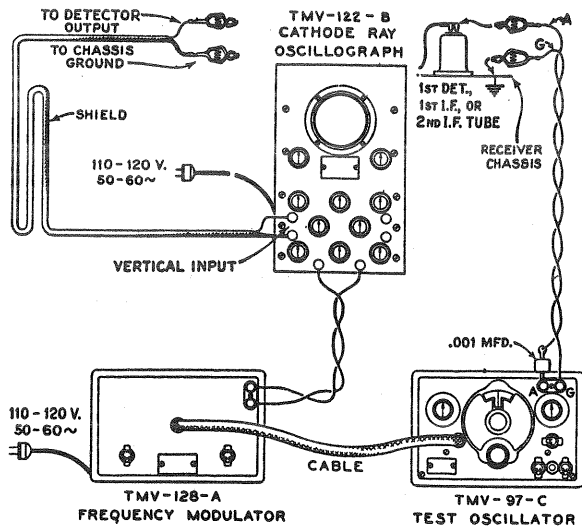

Figure 5—Alignment Apparatus Connections
Figure 5. A .001 mfd. capacitor installed in series with the Oscillator "Ant." lead will prevent the voltages of the stage under alignment from becoming upset. The vertical "A" amplifier should be "On" for the ensuing adjustments and the gain control kept at its maximum position. For each adjustment, the Oscillator output need be regulated so that the image obtained
- (b) Attach the output of the test Oscillator between the control grid cap of the RCA-6K7 i-f tube and chassis ground as shown typically by Figure 5. Tune the Oscillator to 460 kc. and set its modulation switch to "On". Regulate its output until the signal produces a wave pattern on the Oscilloscope screen, adjusting the Oscilloscope controls to give the desired number of cycles. Cause the image to stand still on the screen by manipulation of the frequency and synchronizing controls. Then carefully tune the two trimmers C-29 and C-30 of the second i-f transformer to produce maximum amplitude (vertical deflection) of the oscillographic image. Under this condition the transformer will be sharply resonated to 460 kc.
in operation and interconnected with the Full Range Oscillator by means of the special shielded patch cord. Figure 5 shows the proper arrangement. Set the Frequency Modulator sweep range switch to its "Lo" position and turn the Oscillator modulation switch to "Off". Change the timing control of the Oscilloscope to "Ext." and place the range switch to its No. 2 position. Then carefully shift the tuning of the Oscillator so as to increase its frequency, until two distinct and similar waves appear on the Oscilloscope screen and become exactly coincident at their highest points. These curves will be found to occur at an Oscillator setting of approximately 540 kc. They will be identical in shape but appearing in reversed positions. Adjust the frequency control of the Oscilloscope in order to cause the waves to conform with the above requirements and to make them remain motionless on the screen. This will require a setting of approximately $\frac{1}{2}$ clockwise rotation of the frequency control. The trimmers C-29 and C-30 should then be re-adjusted so that the two curves move together and become exactly coincident throughout their lengths, maintaining the maximum amplitude at which this condition can be brought about.
(a) With the receiver range switch in its Band A position, tune the station selector until the dial pointer is at a reading of 1720 kc. Adjust the test Oscillator to 1720 kc. (modulation "On" and Frequency Modulator disconnected) and increase its output to produce a registration on the Oscillograph. Carefully align the oscillator, detector and antenna trimmers C-20, C-10 and C-3 respectively, so that each brings about maximum amplitude of output as shown by the wave on the Oscillograph. It will be necessary to have the timing control of the Oscillograph on "Int." for this operation. After each trimmer has been peaked, the Oscillograph timing control should be set to "Ext." and the Frequency Modulator placed into operation with its connections to the Oscillator and Oscillograph made in accordance with Figure 5. Turn the modulation switch of the Oscillator to "Off" and retune the Oscillator (increase frequency) until the forward and reverse waves show on the Oscillograph and become coincident at their highest points. Adjust the trimmers C-20, C-10 and C-3 again, setting each to the point which